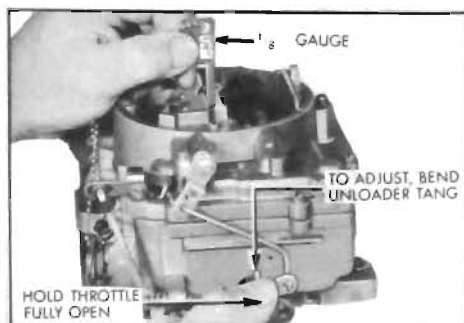

Figure 3-56—Unloader Adjustment
5. Adjust Unloader. Hold throttle wide open and check clearance between upper edge of choke valve and inner wall of air horn using the 1/8" gauge or a 1/8" drill. Bend unloader tang on throttle shaft lever as required to obtain this clearance using pliers. See Figure 3-56.